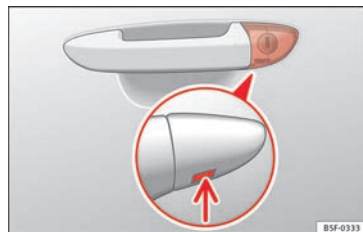

Fig. 4 Driver door lever: hidden lock cylinder.
- Insert the key shaft into the lower opening in the cover on the driver door handle »» Fig. 4 (arrow) then remove the cover upwards.